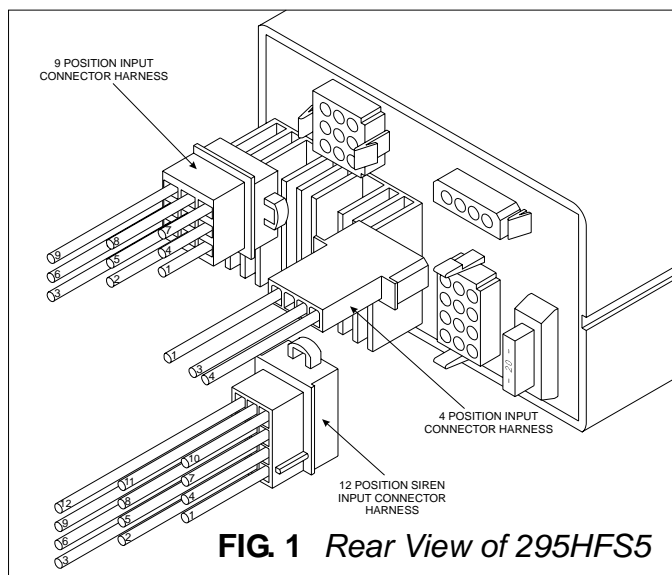

FIG. 1 Rear View of 295HFS5
4. Insert the wiring harness into its port as shown in Fig. 1.